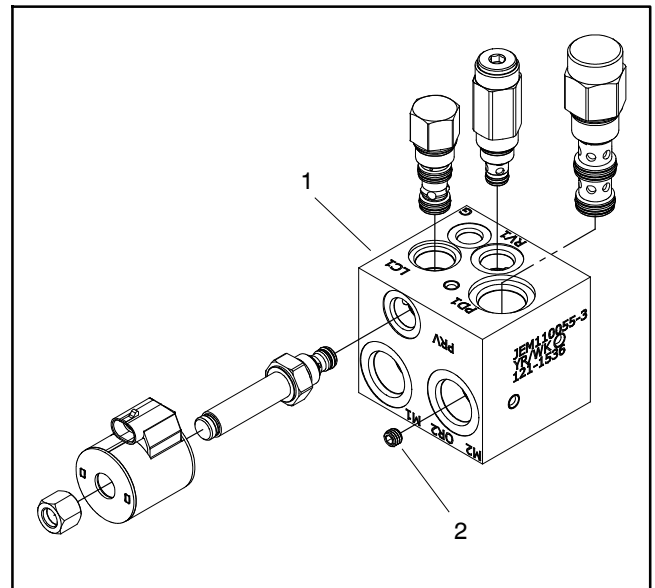

Figure 104
The manifolds for the three (3) cutting decks are very similar. The front and right side PTO manifolds are identical. The left side PTO manifold uses the same cartridges and plugs as the front and right side manifolds but also includes an additional orifice that threads into the manifold OR2 port (Fig. 104). **NOTE:** When servicing the PTO manifolds, **DO NOT** interchange parts from one manifold to another.